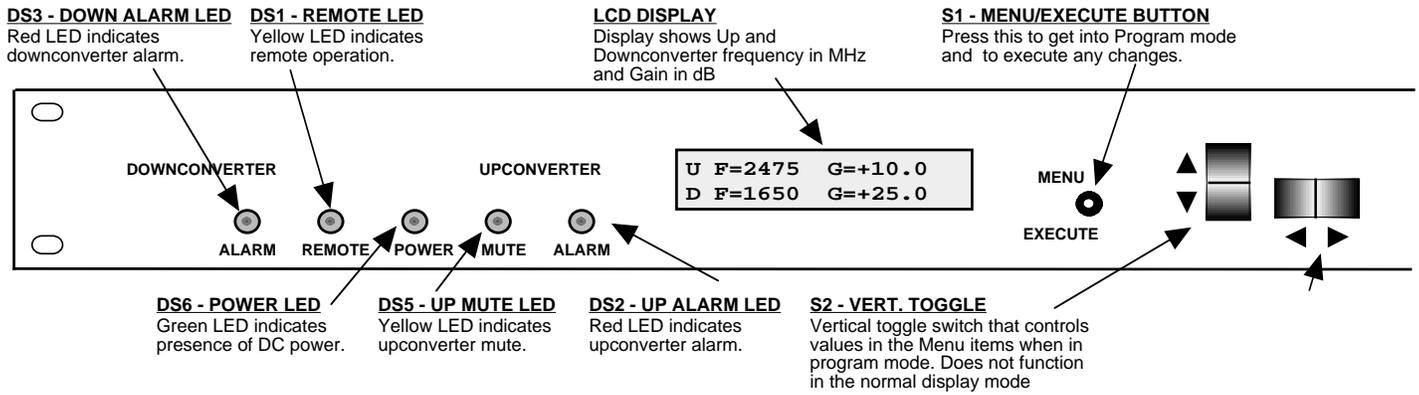

Figure 2.2 Model 2017-1625-140# Front Panel Controls and Indicators
- 7.) Be sure DS6 (green, DC Power) is on and DS2 (red, Alarm) is off (Figure 2.2).
- 6.) Be sure DS6 (green, DC Power) is on and DS2 (red, Alarm) is off (Figure 2.2).
Alarm indications appear on the LEDs (see figure 2.2).